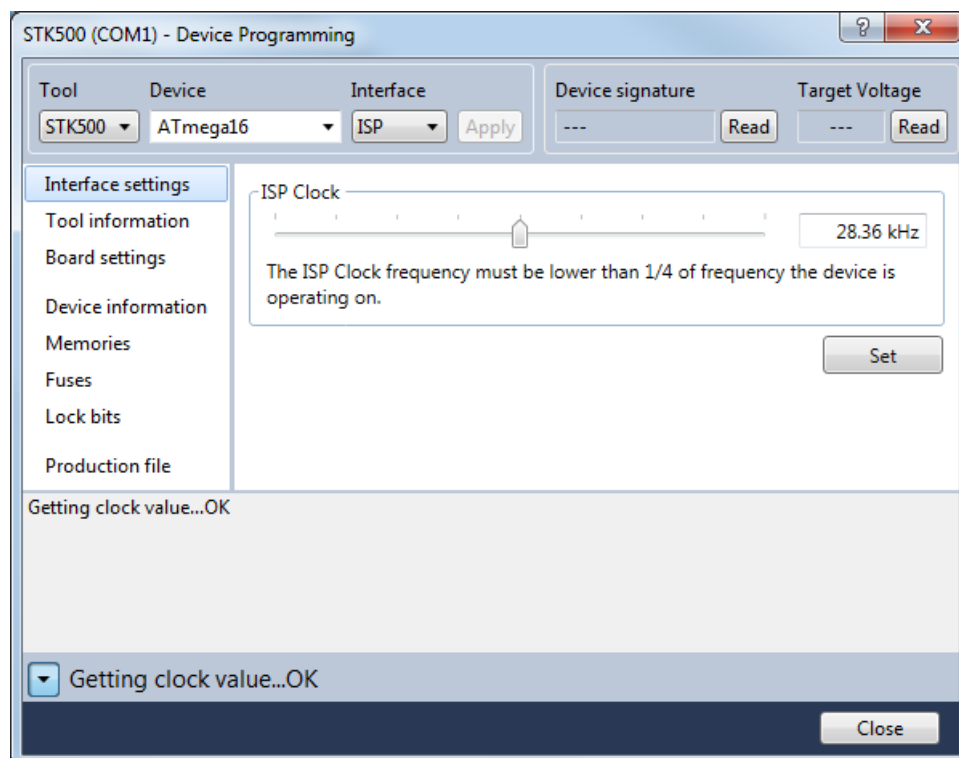

Figure 13: Device programming.
- In the 'Device Programming' dialog box that appears (see Figure 13), select 'Tool' = STK500, 'Device' = ATmega16, and 'Interface' = ISP.